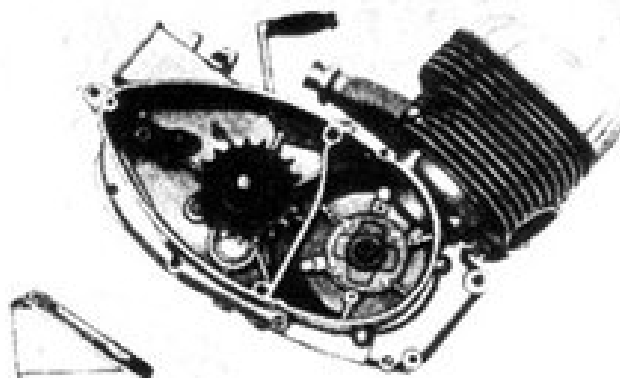

Fig. 25. HЖ-10-3 engine with manifold, removed for unscrewing the fastening screw of crankcase halves.
3. Disconnect the lower manifold from the engine crankcase (Fig. 25).